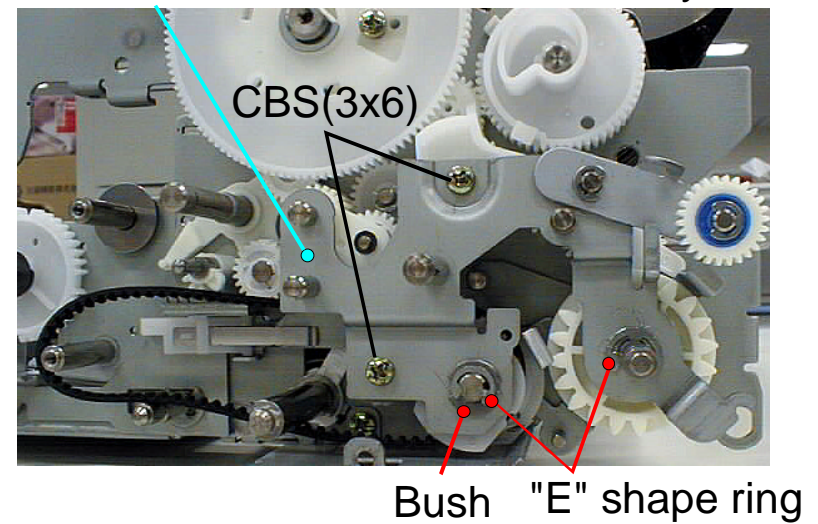

Figure 4-90. Installing "Lifter Gear Train Cover Assembly"
7. Fix "Lifter Gear Train Cover Assembly" with 2 "E" shaped rings and 2 CBS screws(3x6). (Refer to Figure4-90)